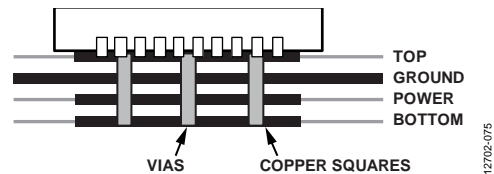

Figure 74. Exposed Pad Layout Example, Side View (Not to Scale)
- A copper layer equal in size to the exposed pad must be on all layers of the board, from top to bottom, and must connect somewhere to a dedicated copper board layer (see Figure 74).